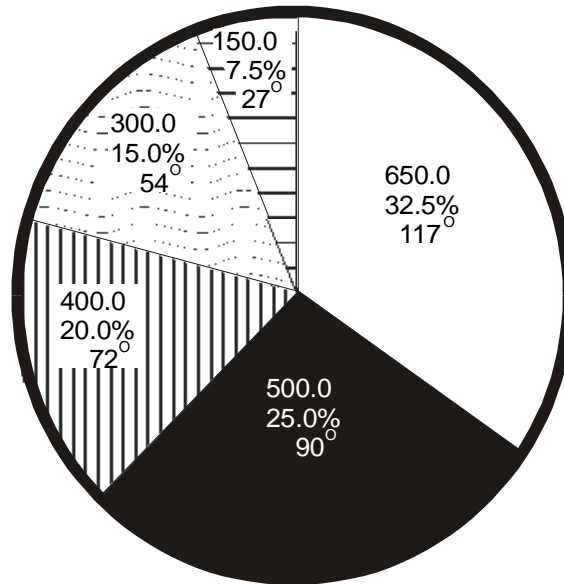

Figure 3-3. Pie chart shows how to determine what percent of the whole each component represents.
- (2) Determine how many degrees of the circle will be needed to represent the item. There are 360 degrees in a circle, therefore 3.6 degrees equals 1 percent. Multiply each percentage by 3.6 to determine the number of degrees needed for that item. See Figure 3-3